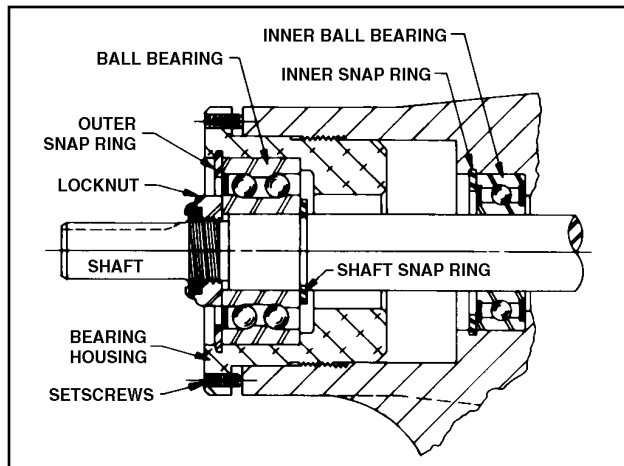
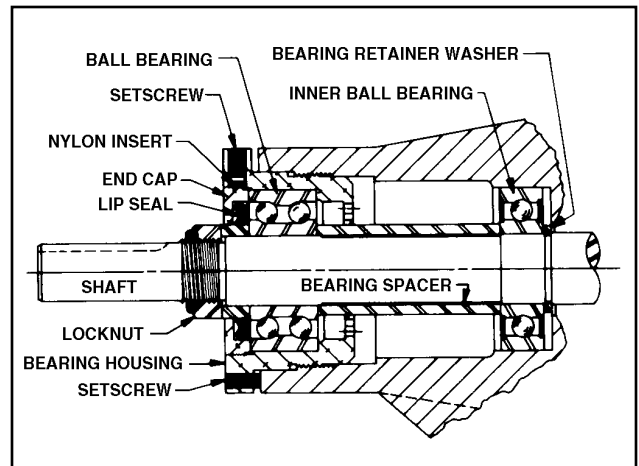

Figure 30 - Thrust-Bearing assembly (GG, HJ, HL)
Figure 31 - Thrust-Bearing assembly (AS, AK, AL)
5. Insert a brass bar or piece of hardwood in the port opening and between rotor teeth to keep shaft from turning. Turn the locknut counterclockwise and remove locknut. See Figure 30 or 31.
6. Loosen two setscrews in face of bearing housing and turn thrust bearing assembly counterclockwise and remove from casing. See Figure 30 or 31.
7. **GG, HJ, HL:** Remove snap ring from shaft. See Figure 30. **AS, AK, AL:** Remove bearing spacer from shaft. See Figure 31.
10. **AS, AK, AL:** Remove bearing retainer washer. The washer may have stayed with rotor and shaft when removed or is against ball bearing. See Figure 31.
**GG, HJ, HL:** Remove outer snap ring from bearing housing and remove ball bearing. See Figure 30.
**AS, AK, AL:** Loosen two set screws in flange outside diameter. Rotate end cap and lip seal counterclockwise and remove. Remove ball bearing. See Figure 31.
**12. GG, HJ, HL:** Install shaft snap ring in groove in the shaft. See Figure 30.
**AS, AK, AL:** Install bearing spacer over shaft and against single row ball bearing. See Figure 31.
**13. Pack lubrication chamber between** inner ball bearing and double-row ball bearing in the thrust-bearing assembly approximately one-half full of multipurpose grease, NLGI #2. The thrust-bearing assembly will take the remaining space. See Figure 30 and 31.
**GG, HJ, HL:** Install ball bearing into bearing housing with shield side toward coupling end of shaft. See Figure 30. Install snap ring into bearing housing to retain ball bearing. This snap ring has a tapered edge to fit tapered groove in bearing housing. The tapered edge is located away from ball bearing.
**AS, AK, AL:** Install ball bearing into bearing housing. Install lip seal in bearing housing end cap. The lip should face towards end of shaft. Put bearing spacer collar in lip seal and install in bearing housing and tighten setscrews securely. See Figure 31.
See Figures 30 and 31.